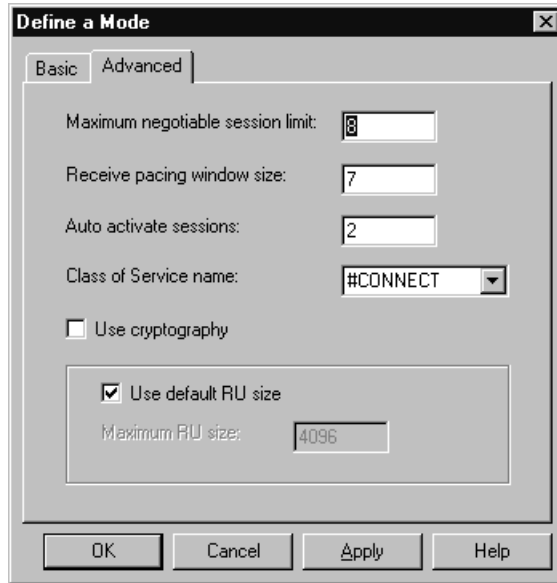

Figure 79. Define a mode window: advanced page
- In the entry fields enter the same values that are shown in Figure 79.